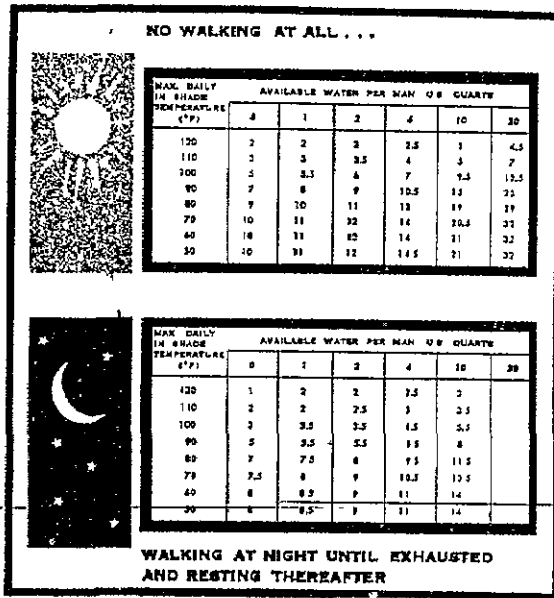

Figure 95. Survival time chart.
c. If water is scarce, travel during coolest part of day or at night. Rest during the heat of the day. By doing this, the water content of the body is conserved. (See survival time chart, figure 95.)